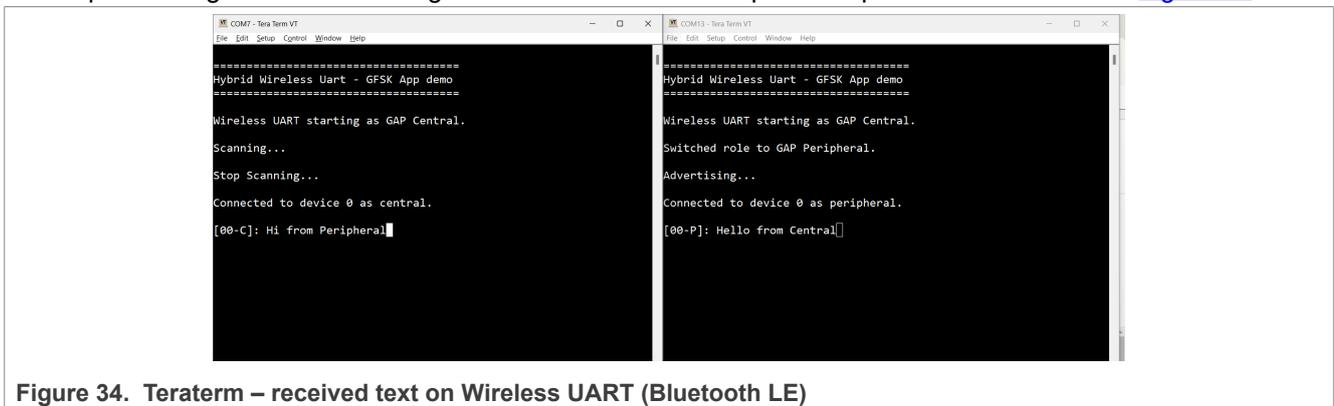

Figure 34. Teraterm – received text on Wireless UART (Bluetooth LE)
1. Open a serial port terminal and connect them to the two boards. (For the procedure, refer to the Section "Testing devices" in *Bluetooth Low Energy Demo Applications User Guide*. The start screen after the board is reset is presented in Figure 34.
4. After creating a connection, the role (central or peripheral) is displayed on the console. The role switch can be pressed again before creating a new connection. An output example can be observed in Figure 34.
1. Open a serial port terminal and connect them to the two boards. For the procedure, refer to the Section "Testing devices" in *Bluetooth Low Energy Demo Applications User Guide*. The start screen after the board is reset is the same as in Figure 34.